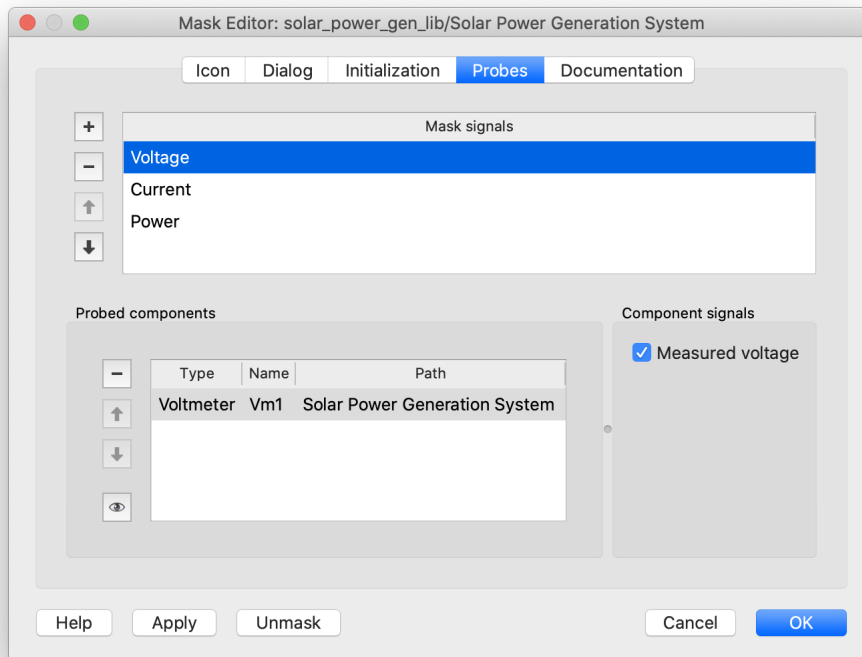

Figure 7: Create probe signals using the Mask Editor
In order to monitor a signal from within a library component subsystem, you should define the custom component signals of interest under the **Probes** tab of the Mask Editor dialog, as shown in Fig. 7. Adding custom probe signals to a subsystem mask makes it possible to directly monitor the key values inside a subsystem using the PLECS Probe block. A step-by-step explanation is provided in the tutorial titled “Creating Custom Components with the PLECS Subsystem Block”.
As an example, to monitor the DC voltage inside the Solar Power Generation System component, a mask signal should be defined for this component by linking the internal Voltmeter and selecting the Voltage signal, as shown in Fig. 7. Then, when this component is copied into a new model, the block itself can be probed such that one can monitor the DC voltage without opening up the subsystem. Any quantity that is measured or calculated inside the subsystem can be added to a custom probe signal list in the subsystem mask. In this example, the probe signals that are added to the Solar Power Generation System subsystem mask are output voltage, current and power.
- 8 From the **Probes** tab, define the mask signals as shown in Fig. 7. Then click **OK** to apply the changes and close the dialog.